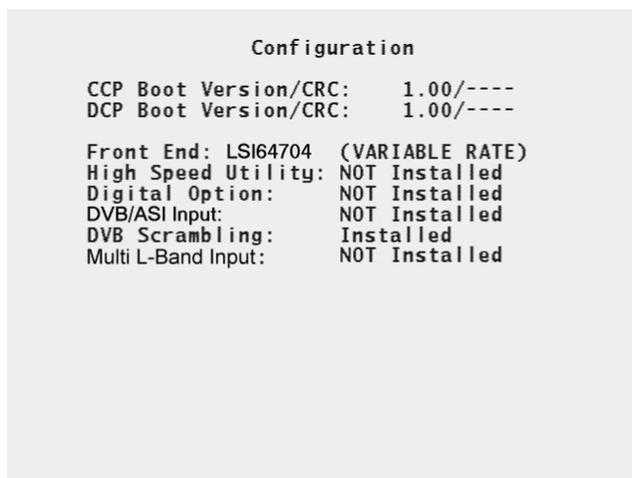

Figure 3-6. Configuration menu
- Step 2.** Press 8 to display the Configuration menu (see Figure 3-6).